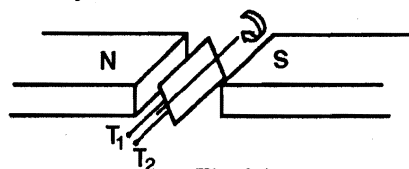
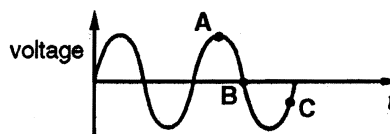

Fig. 2.1
Fig. 2.2
- 58 Fig. 2.1 shows a coil being rotated in the magnetic field between two magnets. Fig. 2.2 shows how the voltage between terminals T_1 and T_2 varies when the coil is rotated at a constant speed.
- Which one of the points A, B or C could represent the voltage when the coil is passing through the position shown in Fig. 2.1? Explain how you arrived at your answer. [2]
- State two ways in which the graph in Fig. 2.2 would change if the speed of rotation of the coil was increased. [2]